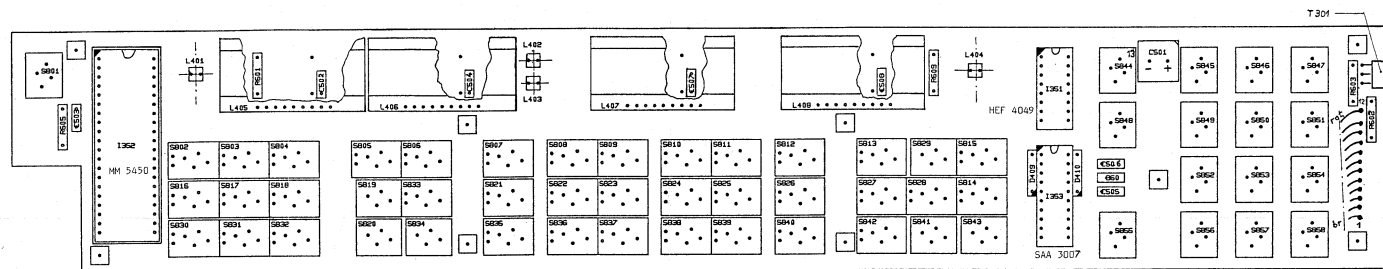

Fig. 42 Unit 3, Keyboard/display component lay-out
- Fig. 42 Unit 3, (keyboard/display) component lay-out